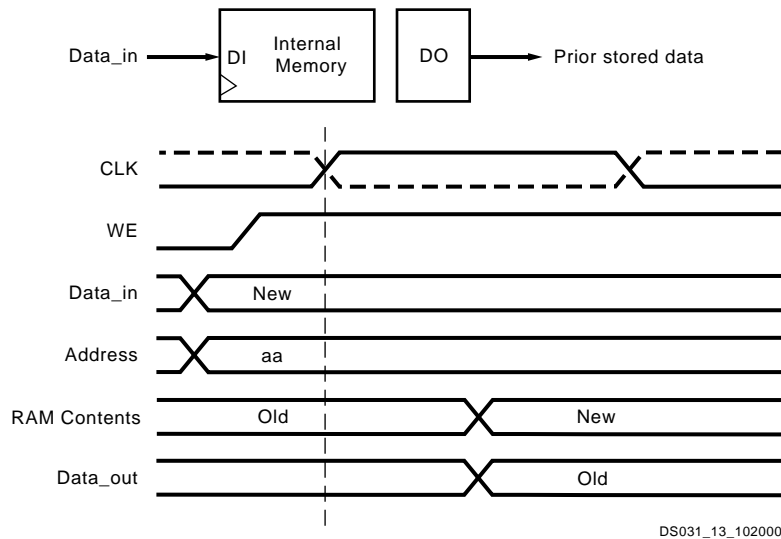

Figure 30: READ_FIRST Mode
The same clock edge that writes data input (DI) into the memory also transfers the prior content of the memory cell addressed into the data output registers DO, as shown in Figure 30.